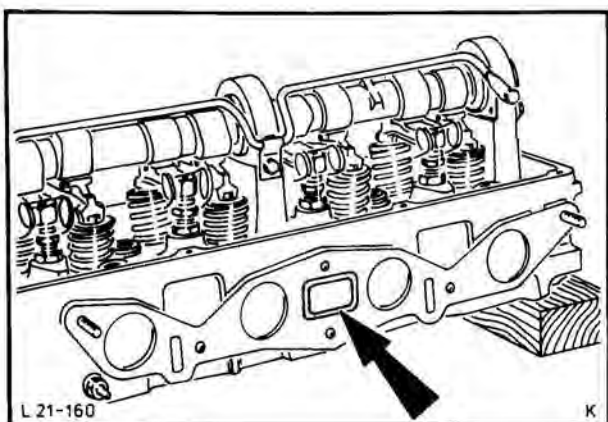

Fig. 165. Apply sealing compound to either side of inlet manifold gasket
22. Fit inlet manifold complete with carburettor and exhaust manifold with new gaskets. Apply sealing compound Part No. A 70SX-19554-BA not less than 5 mm (0,2 in) wide to either side of gasket on water connection (cylinder head – inlet manifold), Fig. 165. Fit exhaust manifold shield.